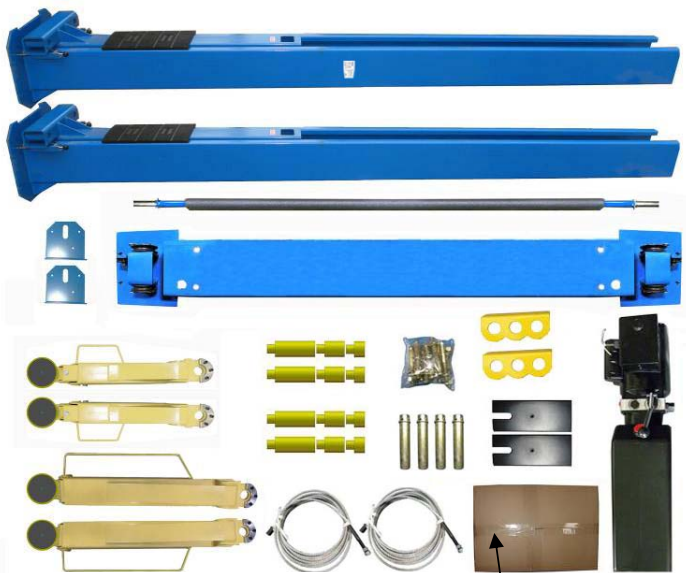

Fig. 10
- 4.1 For Model W-10C (See Fig. 10,11).